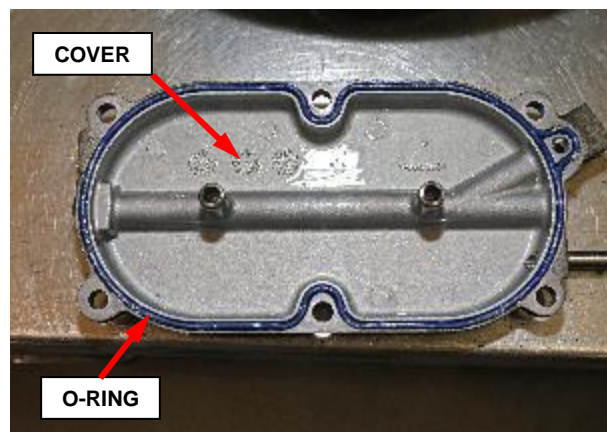

Figure 5 – Cover O-ring
7. Remove and discard the old cover O-ring. Lubricate the **NEW** seal with clean diesel and install it into the channel in the cover (Figure 5).